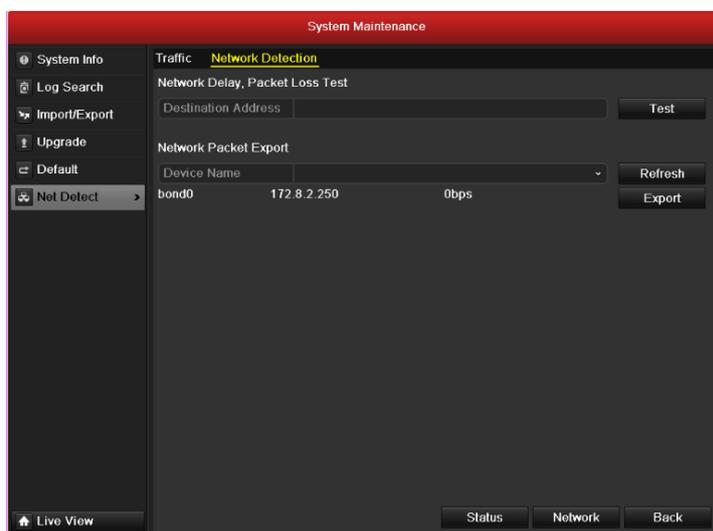

Figure 9.23 Network Detection Interface
2. Click the **Network Detection** tab to enter the Network Detection menu, as shown in Figure 9.23.